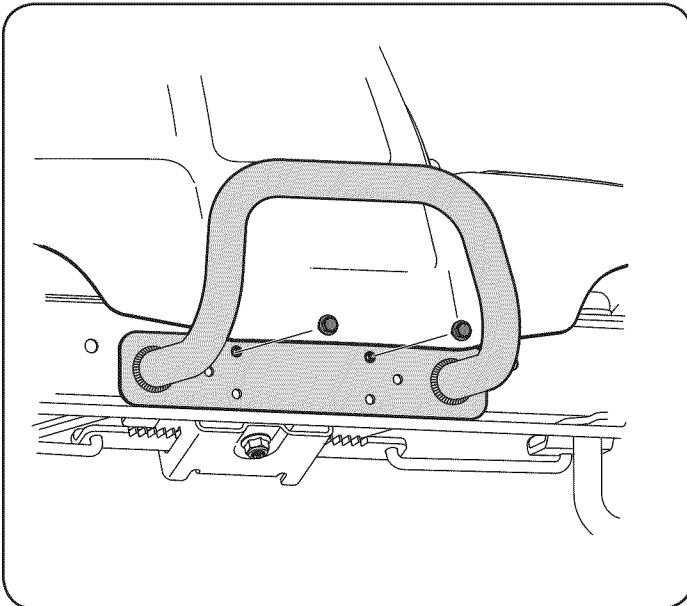

Figure 9
2. Remove the bumper from the tractor by removing the two tap screws that secure it, as shown in Figure 9.